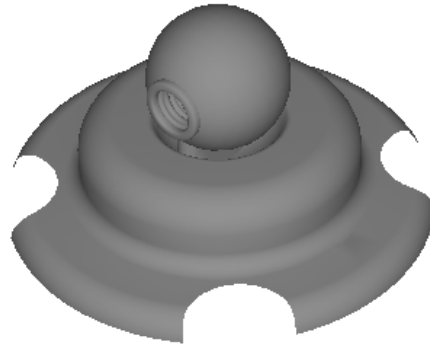

Figure 7-76 Model after turning the display of the isoparametric curves off
16. Select the stand and then clear the **Isoparm U** and **V** check boxes from the **Display** area of the **Control Panel**; the display of isoparametric curves is turned off and the model is displayed, as shown in Figure 7-76.